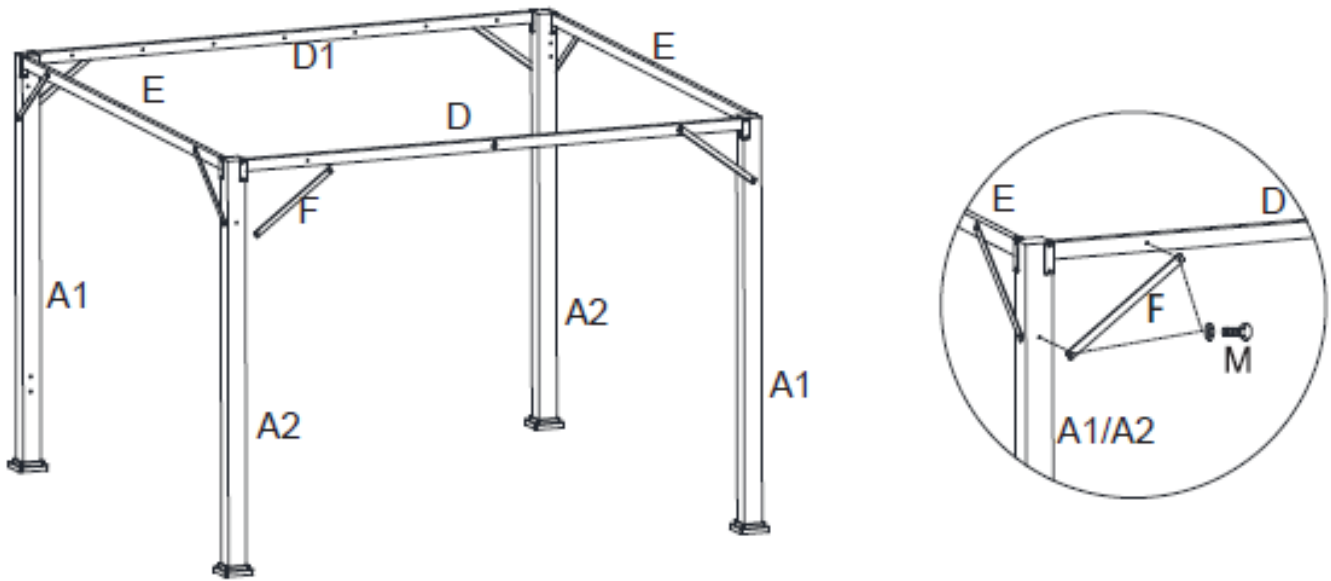

Figure 3
Step 3: Attach all Corner Post Braces (F) to the Corner Posts (A1 & A2) and the Lintels (D/D1/E) using Bolts (M). See Figure 3.